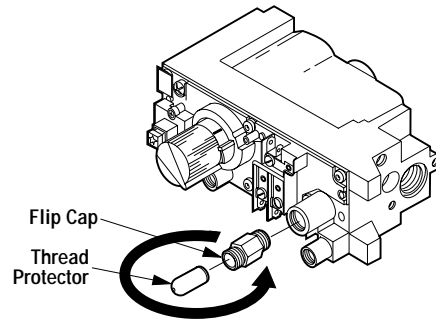

Figure 28
Step 5. Honeywell Systems - See **Figure 28** and the instructions provided with the kit. Remove the black thread-protecting cap. Remove the conversion flip cap by turning it counter-clockwise. Invert the flip cap so that the letters associated with the desired gas type are positioned closest to the valve body.